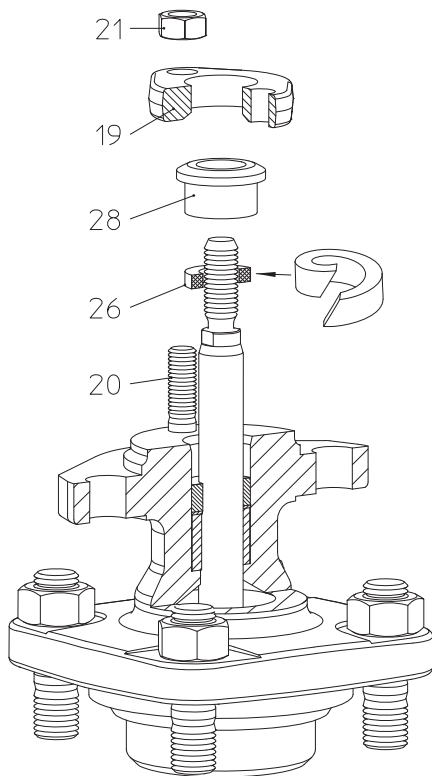
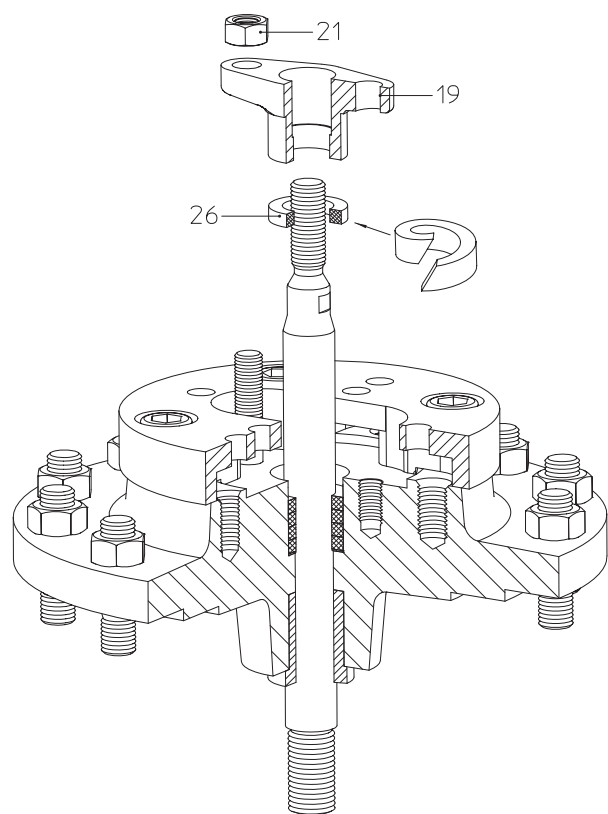

Fig. 11: Stuffing box packing DN15-150
Fig. 12: Stuffing box packing DN125v-150v
- Insert the new packing ring (pos. 26) as shown in Fig. 11 and Fig. 12.